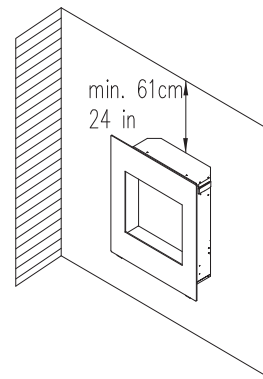

Fig. 1
2. Refer to Fig. 1 right select a suitable position in which to mount the heater horizontally – use a spirit level to achieve this.